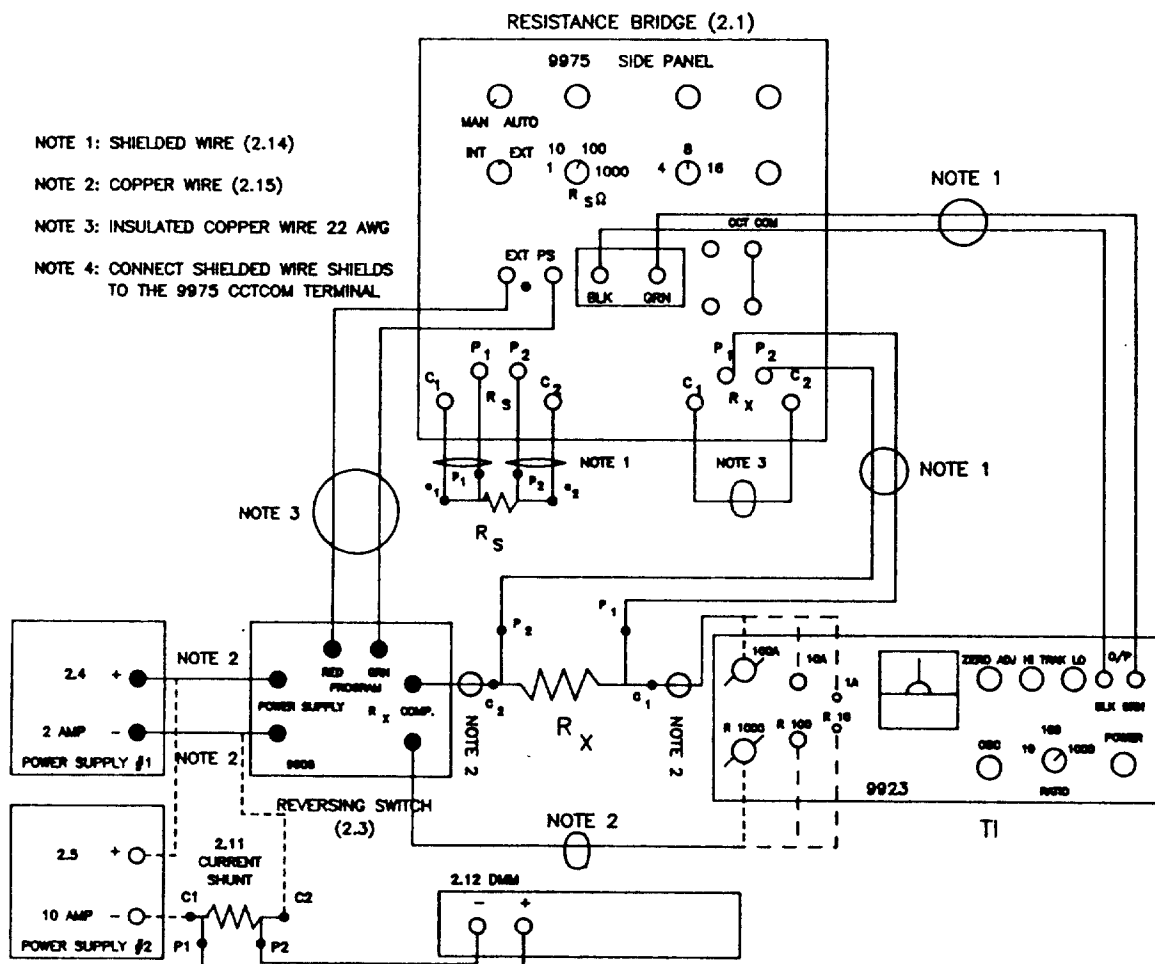

Figure 3. Ratio Test Setup
4.3.3 Connect the equipment as shown in Figure 3, using the appropriate Standard Resistors and Power Supply as directed. Record the Standard Resistor used in the calibration Serial Numbers on the appropriate Worksheet.